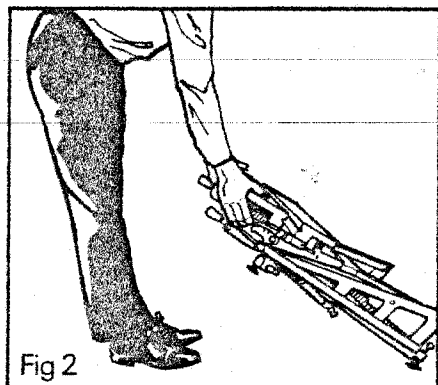

Fig 2
- 2 Lift both safety catches and tilt the Workmate towards you to an angle of approximately 30°, see Fig. 2 and 2a.